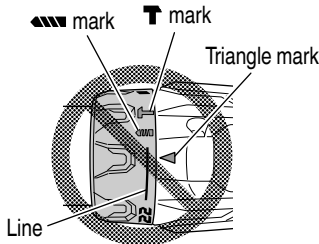

Fig. 14
- Do not use with the clutch dial number at “22” and the line at the middle of the drill mark. Doing so may cause damage. (See Fig. 14)